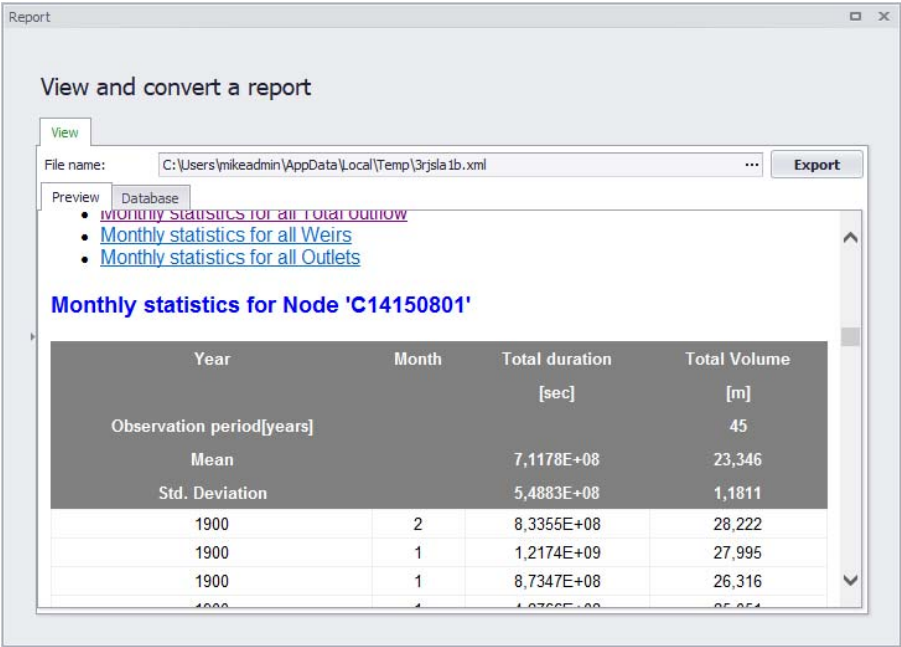

Figure 20.76 Example LTS chronological statistics report
- Click on the ‘OK’ button to create a new LTS chronological statistics report. An example is shown in Figure 20.76. Note that it is not possible to customize data series labels (i.e. Edit alias) for LTS reports, nor is it possible to edit existing LTS reports from the dialog.